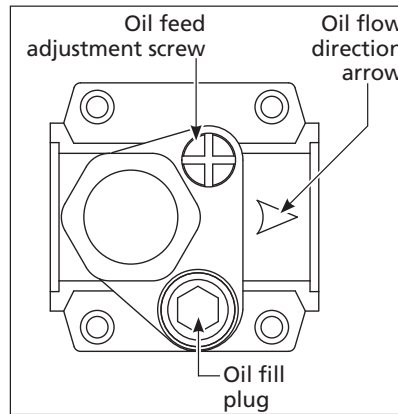

Figure 2
1. Locate the air flow direction arrow (See Figure 2, detail). This arrow shows the direction of the air flow, i.e., it points to the outlet.
3. Verify the arrow points to the outlet (See Figure 2).
4. To fill the lubricator, first shut off the air supply and release all stored pressure. Next, remove the oil fill plug (See Figure 2). After the oil fill plug has been removed, pour oil into the lubricator and then reinsert the oil fill plug. Alternatively, the bowl can be removed once the air pressure has been released. Be certain to fully tighten the bowl before resuming operation.